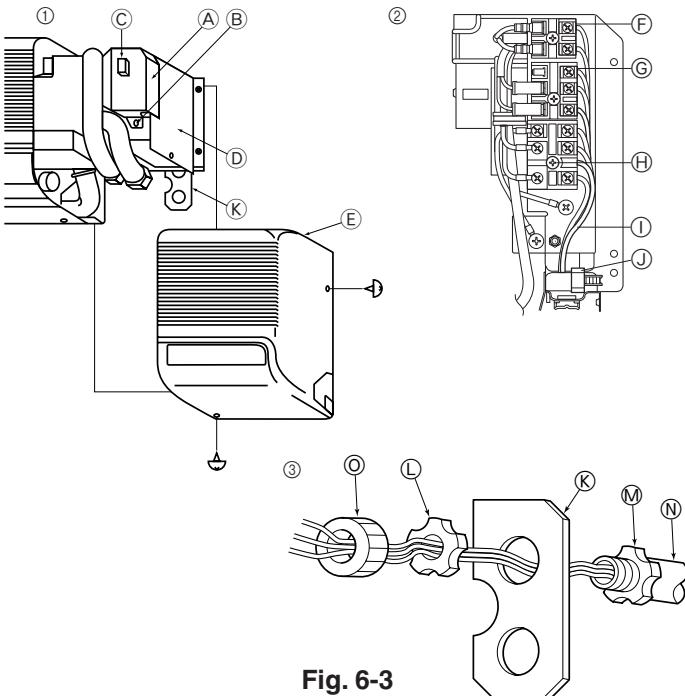

Fig. 6-3
■ PKFY-P18/P24/P30NFMU-E (Fig. 6-3)
3. Remove the tapping screw (1), and then remove the terminal block cover by sliding it to the right and up.
- (A) Terminal block cover
- (B) Securing screw on the terminal block cover